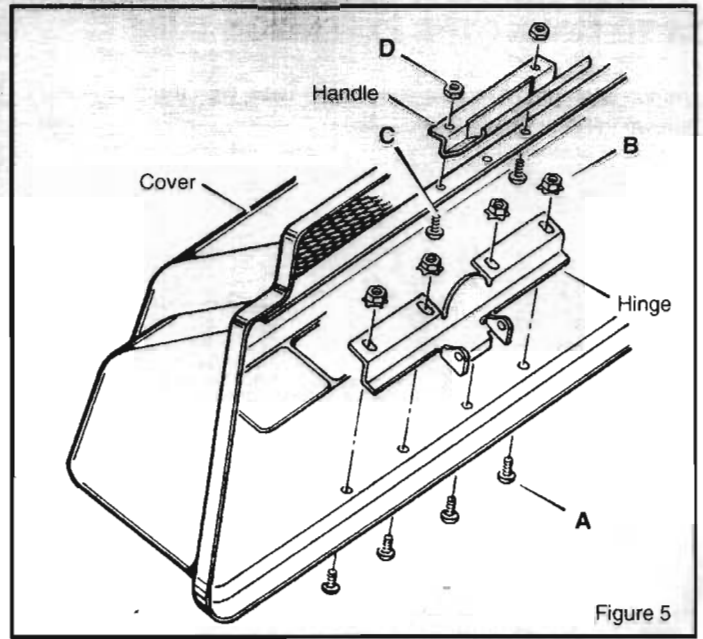

Figure 5
1. Assemble the **hinge** to the **cover** (Figure 5). The fasteners are shown full size below. Push the **hinge** toward the top of the **cover**. Tighten the fasteners.
2. Attach the **handle** to the **cover** with the fasteners (Figure 5). Tighten the fasteners.